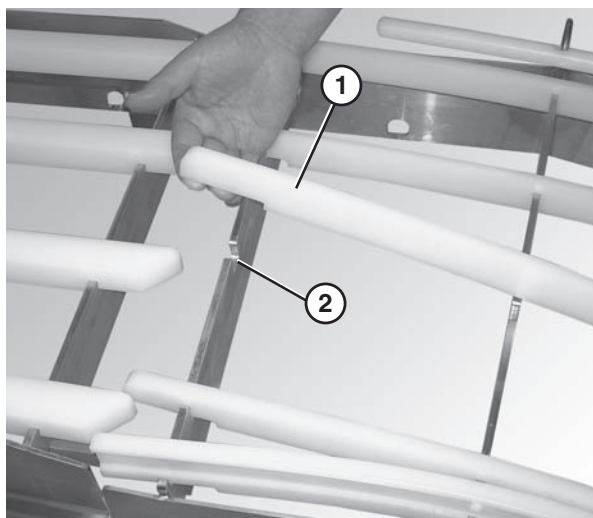

Figure 27
3. Insert the wear strips (**Figure 27, item 1**) into the appropriate slots in the frame (**Figure 27, item 2**), starting with the shortest wear strip on the inside of the curved section and working outward to the longest.